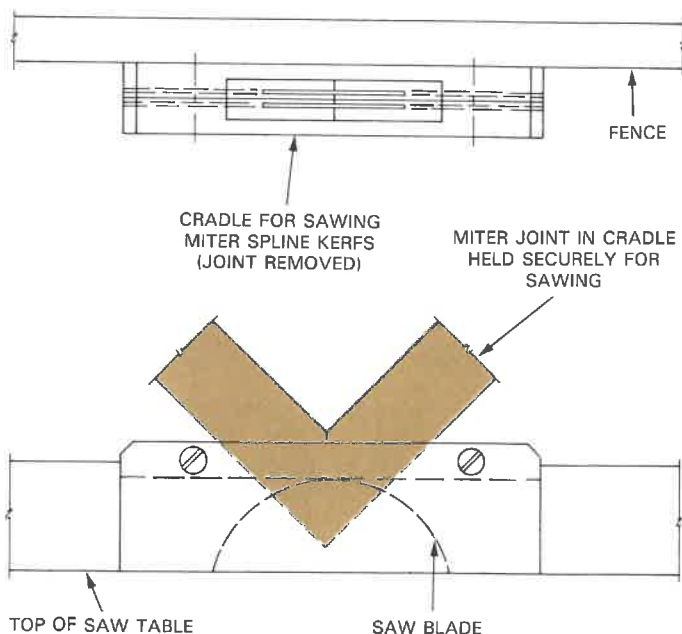

Fig. 20-32. Use a shop built cradle to cut decorative splined miter joints on the table saw.
3. Make a cradle to hold the mitered corner so that one, two, or three cuts may be made across the corner with a table saw, Fig. 20-32.